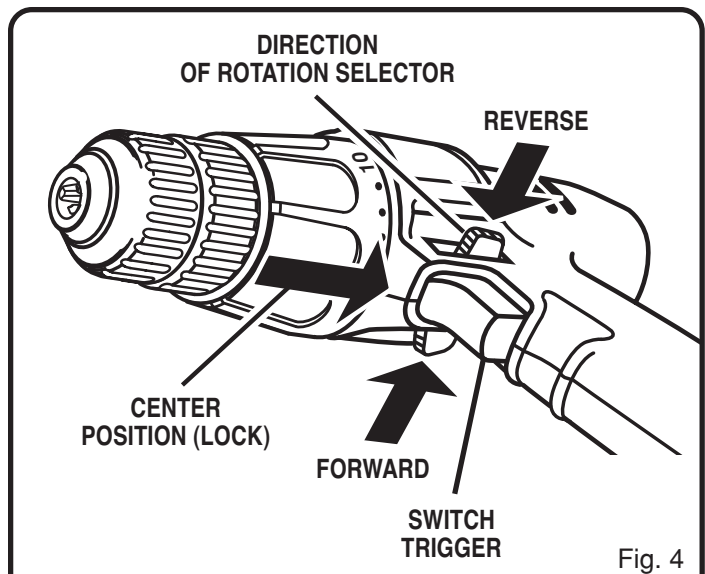

Fig. 4
See Figure 4.
- Place the direction of rotation selector in center position. See Figure 4.
- Place the direction of rotation selector in center position. *See Figure 4.* This will turn off the power to your drill.
- Lock the switch trigger by placing the direction of rotation selector in center position. See Figure 4.